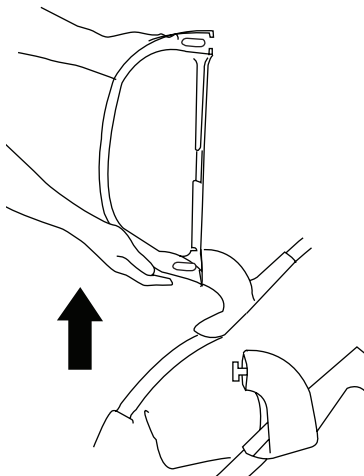

Fig. 3B
- To remove the child tray: Press the left and right release buttons located underneath the left and right side of the child tray (Fig. 3A), and pull upward on both sides to fully remove child tray. (Fig. 3B)